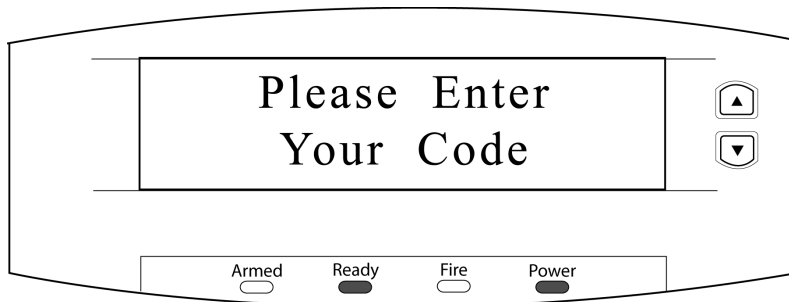

Figure 3: Alarm Panel - Enter Code
2. To enter the alarm panel programming mode, select the \* 8 keys. The alarm panel keypad will beep three times then prompt for the programming code (see Figure 3).